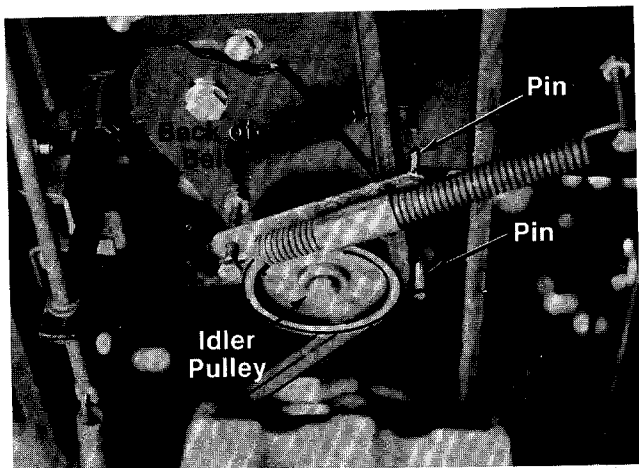

**FIGURE 33.**
7. Slide the transaxle belt guard back. Remove the belt from the engine pulley. Lift the belt up and over the transaxle pulley. See figure 33.